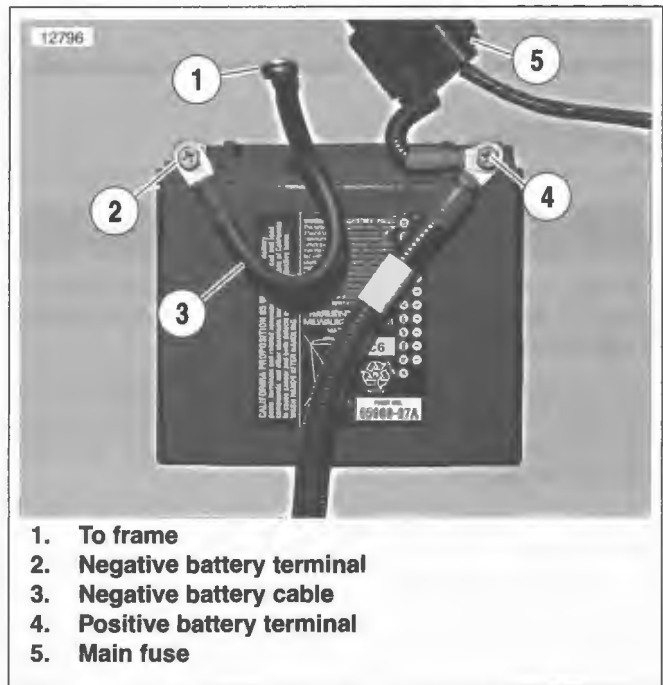

Figure 8-33. Negative Battery Cable Routing
5. See Figure 8-33. Install negative cable.
- a. Make a U-shaped loop in free end of negative battery cable (3), orienting cable so ring terminal points upward.
- d. Install negative cable to frame (1) with bolt.